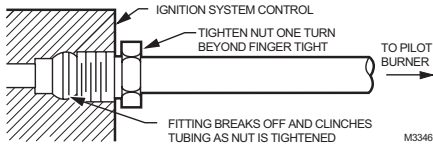

Fig. 7. Tighten new fitting and nut. Always use a new compression fitting.
9. While holding tubing all the way in, slide the new fitting (included with the new SmartValve) into place and begin thread until finger tight as shown in Fig. 7.